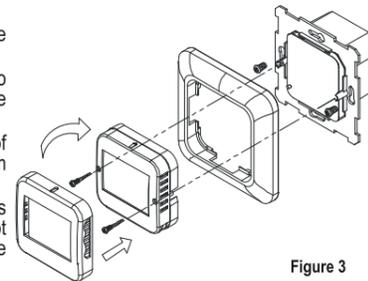

Figure 3
- Press on the catch on the top edge of the top housing using the screw and take away the front plastic frame (see Figure 3);